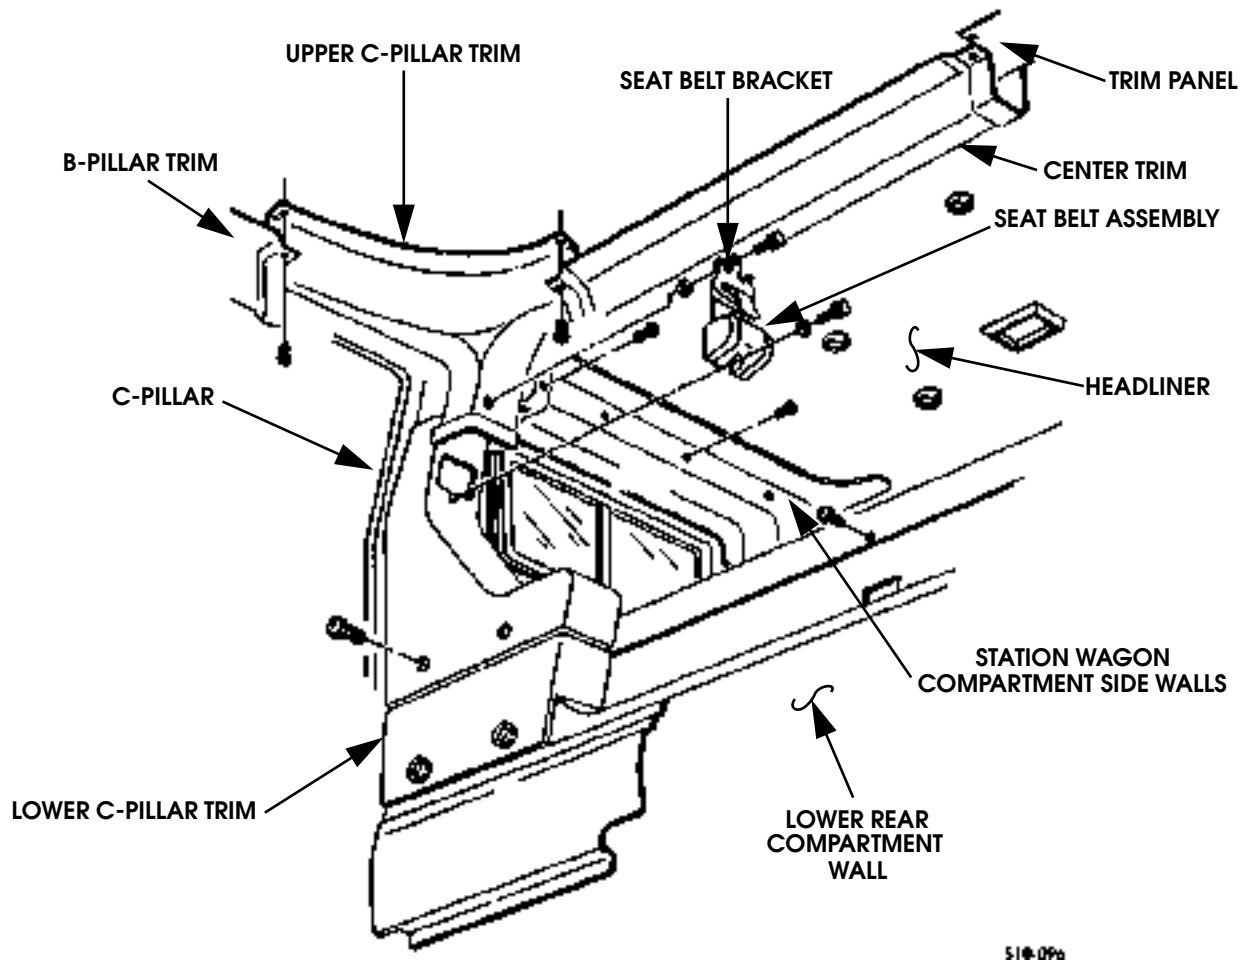

Figure 10-49: Station Wagon Side Wall Component Breakdown
6. Secure lower C-pillar trim to lower side of C-pillar with screw/washer assemblies (Figure 10-49). Secure trim to upper station wagon compartment side wall with screw/washer assemblies.